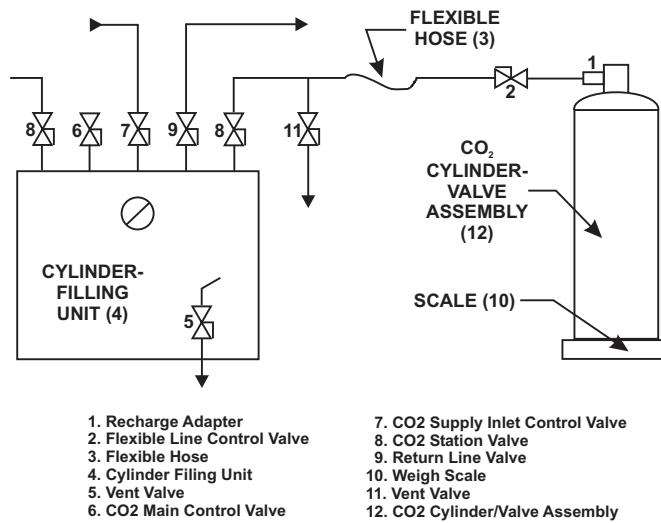

Figure 6-12. Typical Carbon Dioxide Recharge Schematic
CO2 cylinders must not be recharged without a retest if more than five (5) years have elapsed since the last test. Retest shall be in accordance with the requirements of 49 CFR, Paragraph 173.301 through 173.308 and 173.324. After retest, cylinder must be thoroughly dried and free of any water vapor (see Figure 6-12).